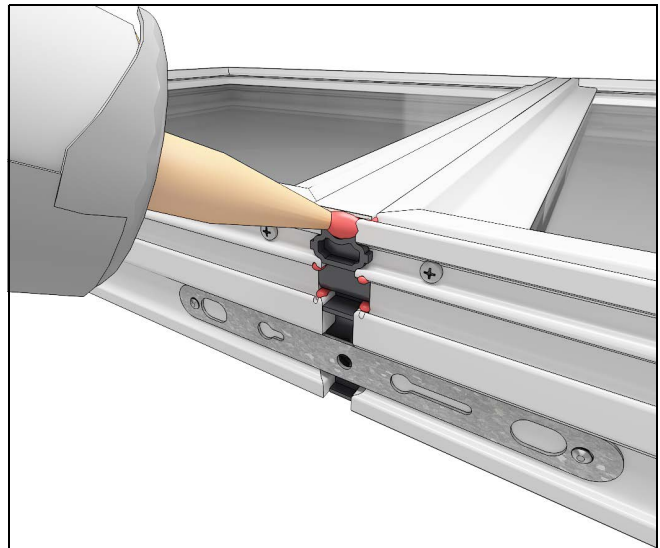

Figure 14
4. Using a high quality sealant loaded into a caulking gun, insert the nozzle into the injection hole on the mull plug and inject with sealant. You will know there is enough sealant injection when overflow appears in the marked locations in Figure 14.